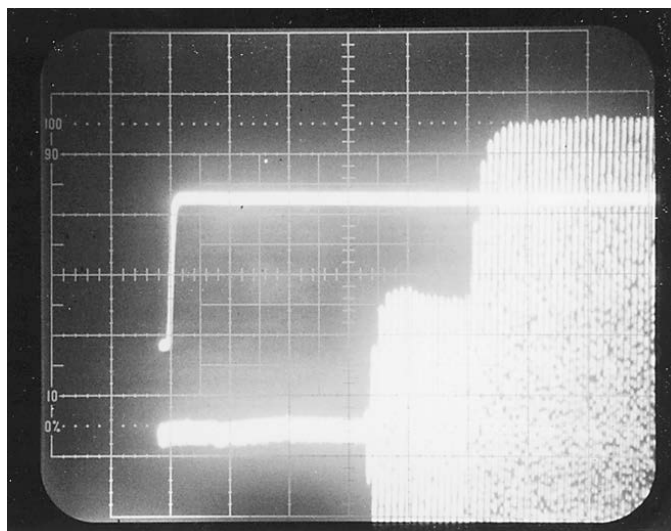

Fig. 4-9A — Oscilloscope Trace of RF Envelope
4.9.3.4 Tune the transmitter, if necessary, exactly per the operator's manual for the 14.250 MHz test frequency. Turn on the two-tone generator and set the A tone switch to ON. With the DUT in the USB mode, set the generator LEVEL and ATTENUATOR controls for the maximum audio input level as specified by the DUT manufacturer. Unkey the transmitter and turn the keying test generator 4.9.3.5 Key the transmitter and set for the maximum power as ON. Adjust the oscilloscope settings (including sweep rate) as required for an optimum display trace as shown in Fig. 4-9A. If the audio output is not visible at all on the oscilloscope it will be necessary to increase the keying test generator KEY-UP and KEY-DOWN time. Measure and record the time it takes to go from PTT key-up to 50% audio output. Set the keying test generator to OFF.